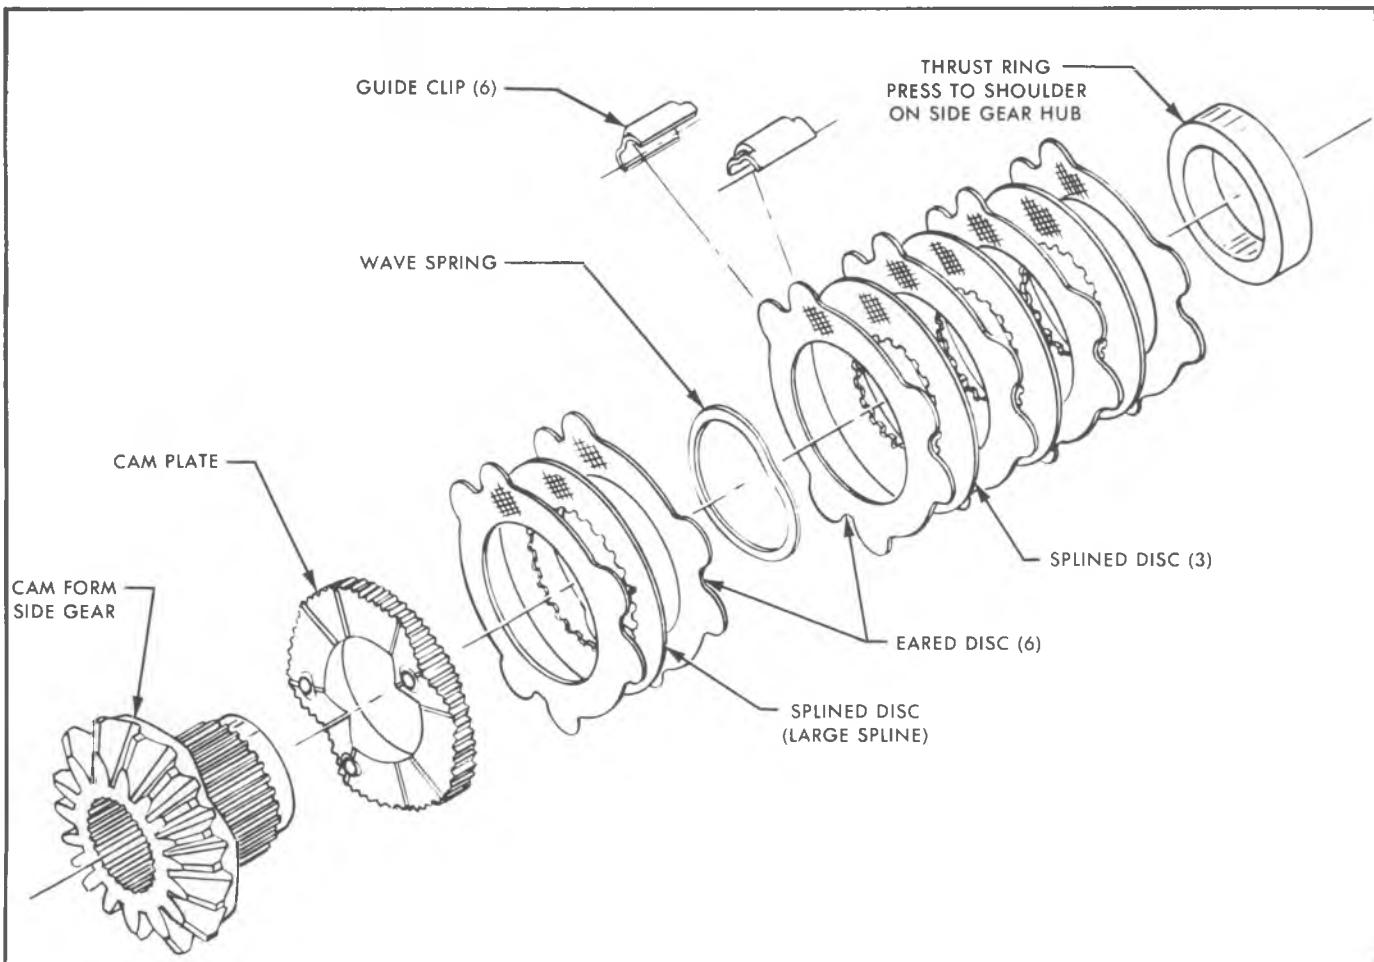

Fig. 4B-9H--Cam Plate and Clutch Disc
3. Assemble onto cam plate: (2) eared discs, (1) splined disc, and (1) wave spring alternately as shown, Fig. 4B-9H.
4. Assemble onto gear hub: (4) eared discs and (3) splined discs alternately as shown. Begin and end with an eared disc.